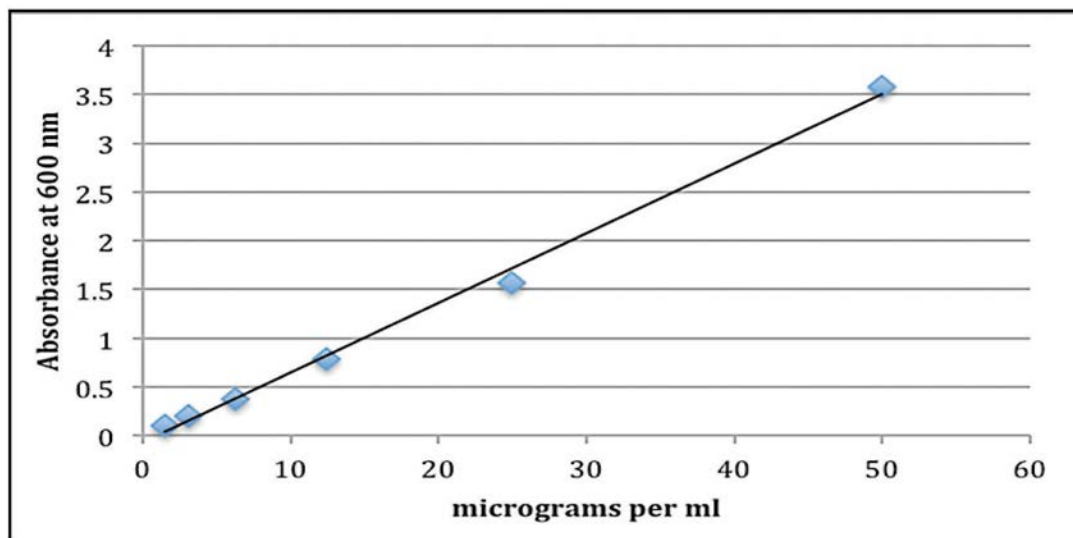

Fig. 4. Graph of absorbance at 600 nm against concentration for FD&C Blue 1.
- Plot concentration (x-axis) against absorbance (y-axis). For an example, see Figure 4